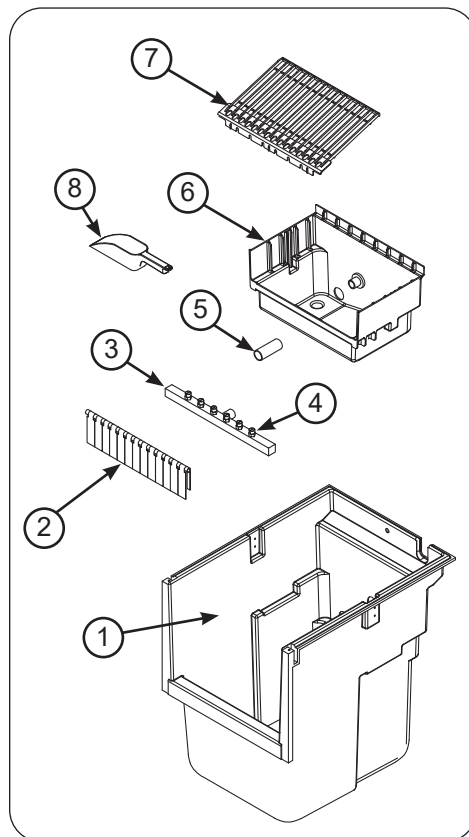

Fig. 14-1 Ice-production system components
4. Pour 4 ounces of an ice machine cleaner (neutral detergent for dishwashing or equivalent) into the water container (6) of the ice maker.
7. Clean the ice container (1), ice curtain (2), nozzle frame (3), spray nozzle (4), connective hose (5), the inside of the water container (6), slide grill (7), and ice scoop (8) using a mixture of washing agent and water. See Fig. 14-1.